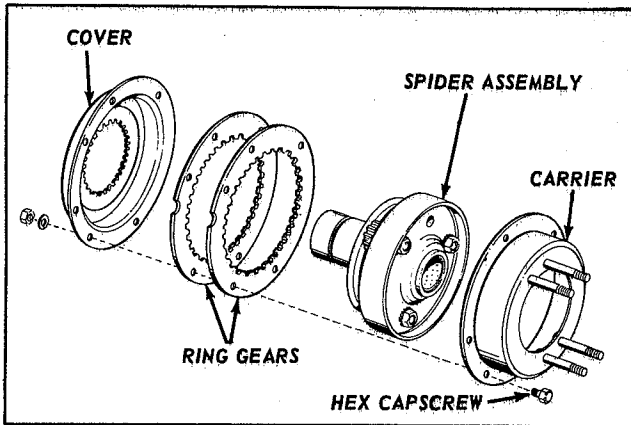

Figure 8
8. To disassemble the carrier assembly and the cover assembly, remove the 6 hex capscrews, lockwashers, and hex nuts holding carrier & cover. Refer to Figure 8. When the two pieces are apart the 2 ring gears held in place between them can be removed. The remaining item is the spider assembly with 3 pinion gears held in position by hex bolts and nuts located and held by a bolt ring.